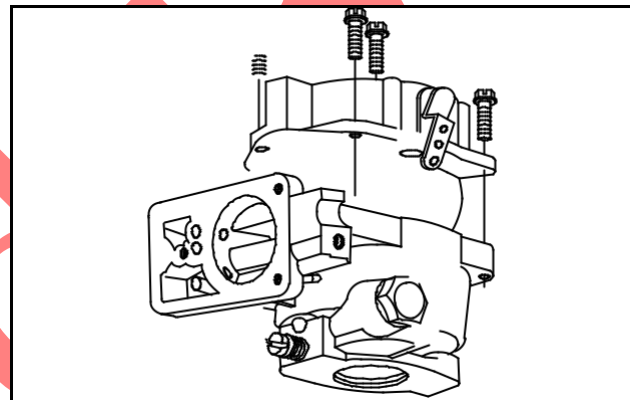

Fig. 41 – Install Upper Body
12. Install upper body assembly, Fig. 41.